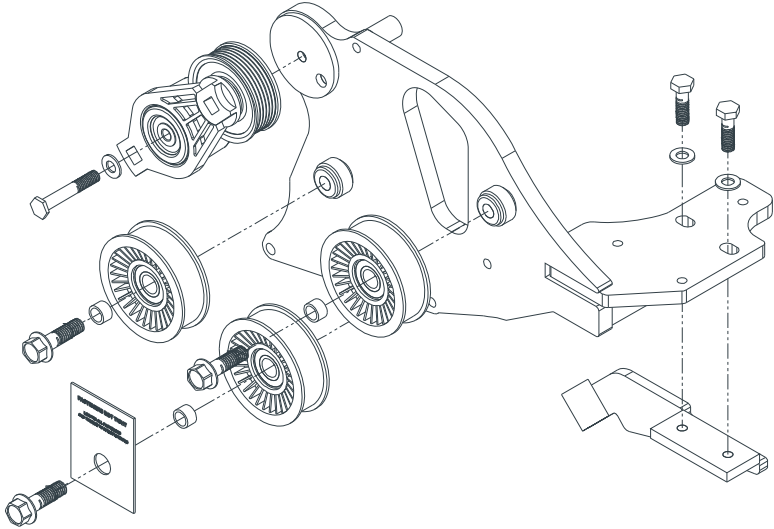

Figure 2.1
- Remove all the components from the bracket (Figure 2.1).